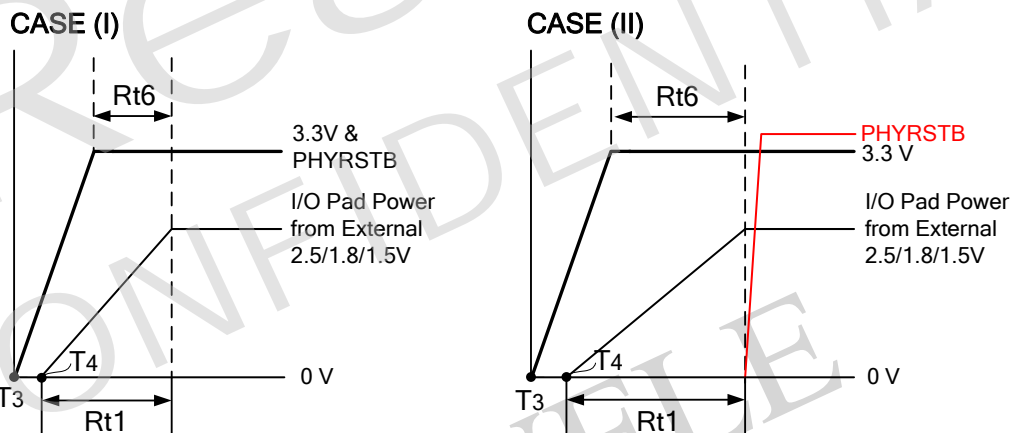

Figure 11. Power Sequence (I/O Pad Power Sourced Externally)
Note 5: When using an external power source for the I/O pad, the power should rise simultaneously or slightly later than 3.3V power, i.e. $T_4 \square T_3$ in Figure 11.
Ready time of the external power should be within 5ms after 3.3V is ready. See CASE(I) in Figure 11, page 49.
PHYRSTB should be kept low until the external power is ready. See CASE(II) in Figure 11, page 49.